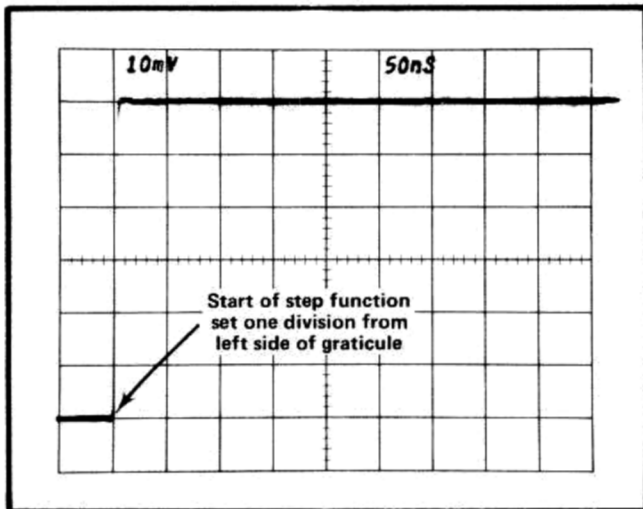

Fig. 5-13. Step function position for transient response adjustment, step 12.
(8) Set the top of the display to graticule center, using the 7A11 POSITION control. Then switch the 3S1 Channel A and Channel B mVolts/Div controls to 5 mV. Re-adjust the 7A11 POSITION control to keep the top of the display at graticule center.
(9) CHECK—Display should be similar to that observed in step 12-d (7). Deviation should be approximately within  $\pm 1$  division, which is equal to  $\pm 2\%$ .
(10) Repeat the transient response adjustments listed in Table 5-6, striving to duplicate the mean trace shape recorded in step 12-d (7).
(11) Remove the Extender (and attached 7A11) from the plug-in compartment.
(12) Install the 067-0587-00 Calibration Fixture (item 9) in the vertical plug-in compartment. Switch it to 250 kHz, + Step Response, and adjust the Amplitude to obtain a centered 6-division display. Switch the sweep rate to  $.05 \mu\text{s}/\text{division}$  and set the step function to occur at the second line from the left of the graticule as in Fig. 5-13. Note the shape of the top-left corner of the pulse. It will be used as a reference.
(13) Install the 7A11 directly into the Oscilloscope vertical compartment.
(14) Adjust the Type 106 Square Wave Generator + Transition Amplitude to obtain a 6 division, 250 kHz display. Position the display as in Fig. 5-13. The step function should be essentially the same as that provided by the Calibration Fixture.